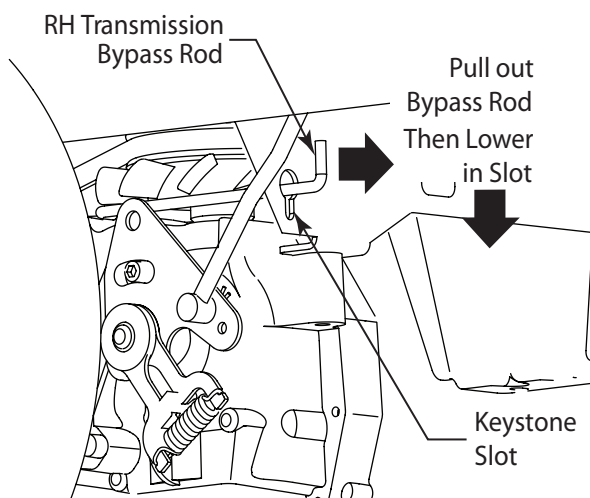

Figure 6-4
- From just in front of the two rear tires, locate the transmission bypass rods. Refer to Figure 6-4.